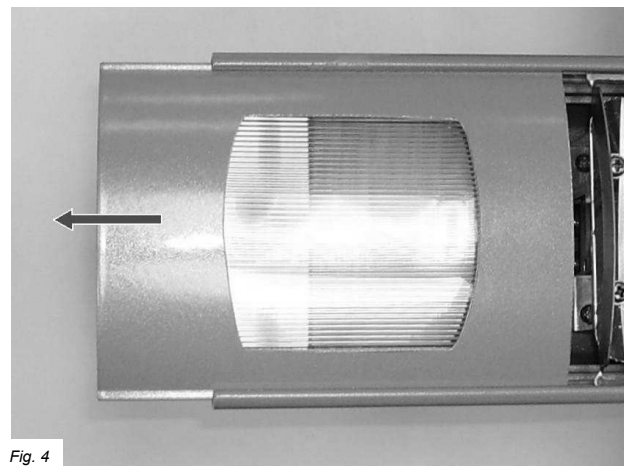

Fig. 4
- When vertically mounting the Rio Grande heater, ensure to leave a gap between the heater and mounting surface (See Fig. C - dim A). The heater should always be angled downwards when mounting this way with the terminal box at the bottom of the heater - see Fig. 4. Do not position the heater at an angle more than 45° and less than 30° to the horizontal as shown.